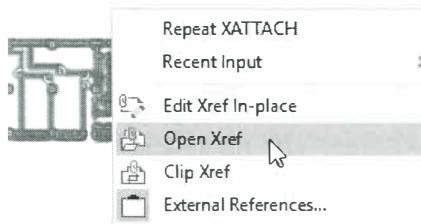

Figure 11–13
- You can also open drawing reference files by picking the reference in the drawing window, right-clicking and selecting **Open Xref**, as shown in Figure 11–13.